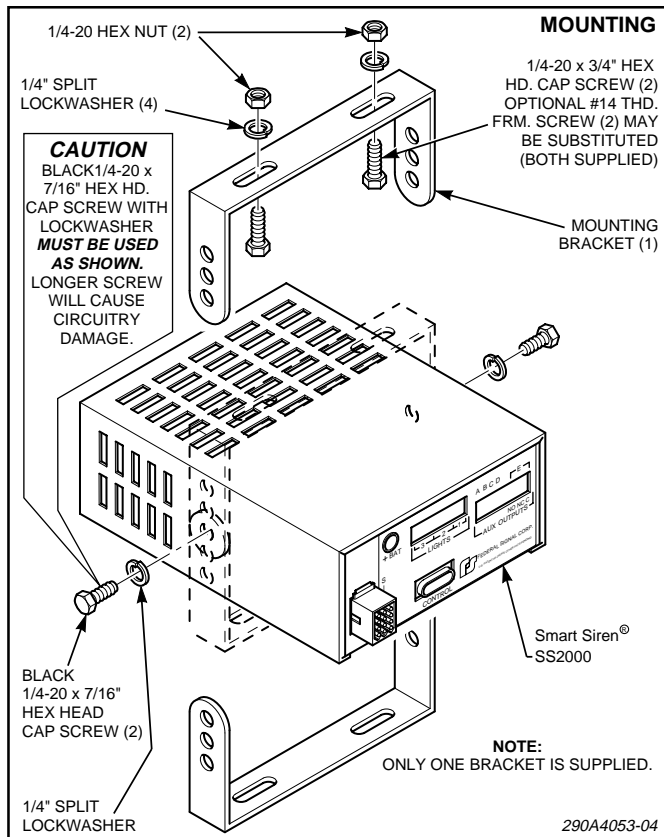

Figure 3-2. Mounting Bracket Installation.
A. Use the mounting bracket as a template and scribe two drill positioning marks at the selected mounting location. See figure 3-2.
C. Secure the mounting bracket to the mounting surface with (2 each) 1/4-20 x 3/4 hex head screws, 1/4 split lockwashers and 1/4-20 hex nuts as shown in figure 3-2.